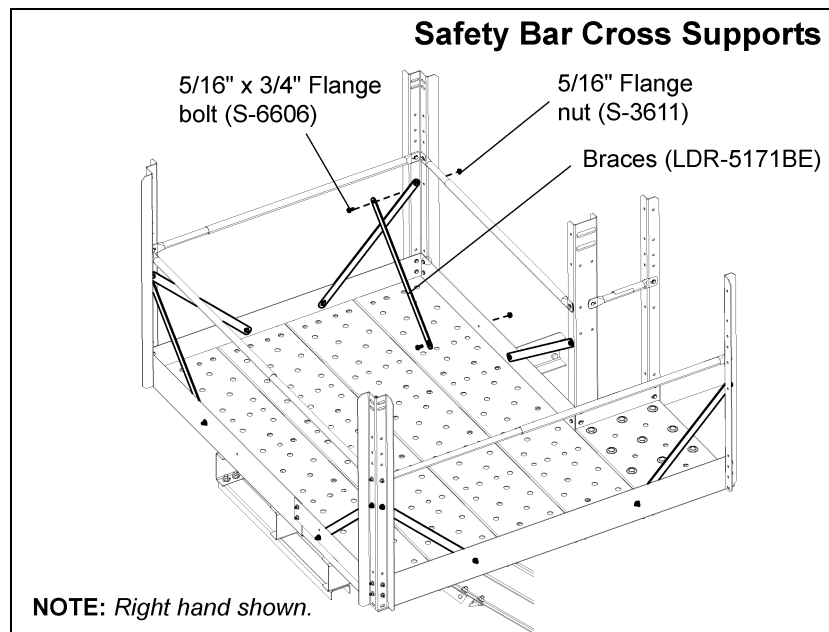

Figure 12J
1. Install safety bar cross supports from the decking toe board to the rail posts using two (2) 5/16" x 3/4" flange bolts and nuts per each cross bar support. (See Figure 12J.)